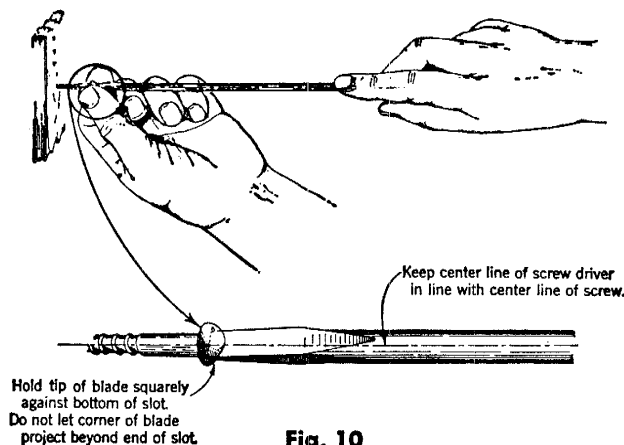

Fig. 10
**6.02** After lead hole has been drilled insert the screw and start it by holding it and the screwdriver in position as shown in Fig. 10.